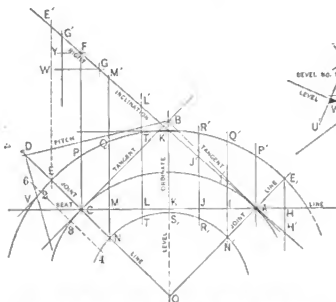
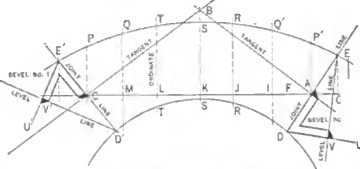
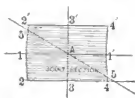

Fig. 7.—Quarter-Circle Plan of Coping, the Rise of Which May Be Equal Over the Plan Tangents.
Fig. 8.—Obtaining the Face Mold and Joint Bevels.
Fig. 9.—Showing Development of Joint Section.
**I**N Figs. 7-8 is shown the method by means of which the face mold and bevel may be projected in practice. The plan, Fig. 7, may be drawn in the manner explained above for the similar operation at Fig. 5. Then join A-C with the chord line A-K-C; this is the seat line, and if correct will be at right angles with the ordinate O-B of the plan. Now square with A-C draw C-F, equal in length with that of the rise of the rail, then joining F-A, the right inclination of the section plane may be obtained. Now produce the joint line O-C, and set off C-D equal with the half rise of the rail; then joining D-B, the inclination of the section plane over the tangents may be obtained. This done, divide the plan curves into any number of parts, and from each point produce lines, as H'-H-E, A-P', N'-I-Q', &c., meeting the right inclination, as shown in the points H'-A-I', &c.
Now, in Fig. 8, set off H-A-I, &c., equal with H'-A-I'-J', &c., of Fig. 7; square over the ordinates of the section plane, as shown, and make them equal in length to that of the corresponding ordinates of the plan. Then, joining A-B, B-C, and the projection of the tangents of the face mold may be obtained; square with these draw
the joint lines D-E. Now trace first the convex curve, then set off A-D, C-D', equal respectively with A-E, and additional points may be obtained at the joint lines through which to trace the concave curve. Now to find the angle of the "plumb bevel." First, at the points given in E-D of the joint line, square with A-C, draw E-G, D-F. Now in Fig. 7 set off G'-G equal with G-F of Fig. 8; then square with C-F draw G-W. It may now be seen that the point D of the lower joint line is situated at a vertical height equal with that of W-G' above the point E of the line. Also that the point E' of the upper joint line is situated at the equal vertical height above that of the point D'. Notice this is only the "vertical height," such as may be found at a vertical line, as that of G-D of the model of Fig. 4-5a. In order to find the correct angle of the bevel we have to find the length as obtains at the inclined surface of the joint, similar to that given in C-J of our model. This may be found as follows: At Fig. 7, square with B-D draw D-V indefinitely. Then set off D-E equal with G'-W above. Then parallel with B-C draw E-V. Now in Fig. 8, when the points D-E' respectively of the lower and upper joint lines as the centers, and the length D-V, Fig. 7, as the radius, draw arcs in V-V'. Then with the opposite points of the joint lines as the centers, and the width as E, N' of Fig. 7 of the rail as the radius,
curved plan, thus obviating all "rule of thumb" methods, in Fig. 7 set off D-6 equal to the half thickness of the rail or coping; then parallel with the joint line O-D draw G-2-3-4. Now at Fig. 9 draw two lines, as 1-1' and 3-3', at right angles. Then, taking A as the center point of the joint section, set off A-1', and A-3, A-3', equal respectively with the half thickness and width of the rail; through the points given in 3-3' draw lines parallel with 1-1'; then set off 2'-3'-4', &c., equal with 2-3-4 of Fig. 7; through the points given in 2'-1-2 and 4'-1-4 trace curves, which will give the contour of the section. Now transfer the angle, as given in D'-E'-U' of Fig. 8 to the points as shown in 5-A-3, which will complete the drawing.